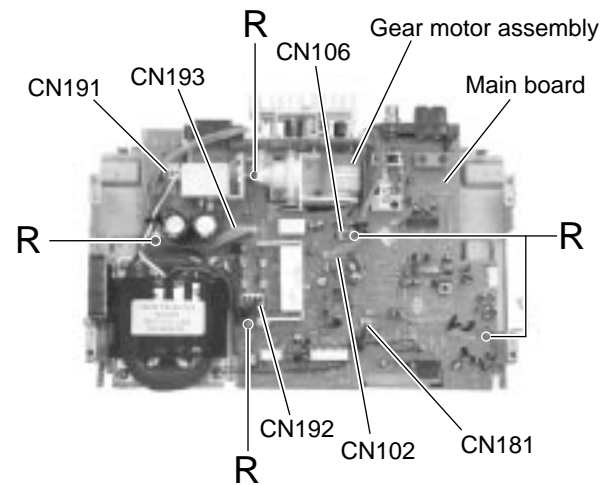

Fig.27
■ Removing the main board (See Fig.27)